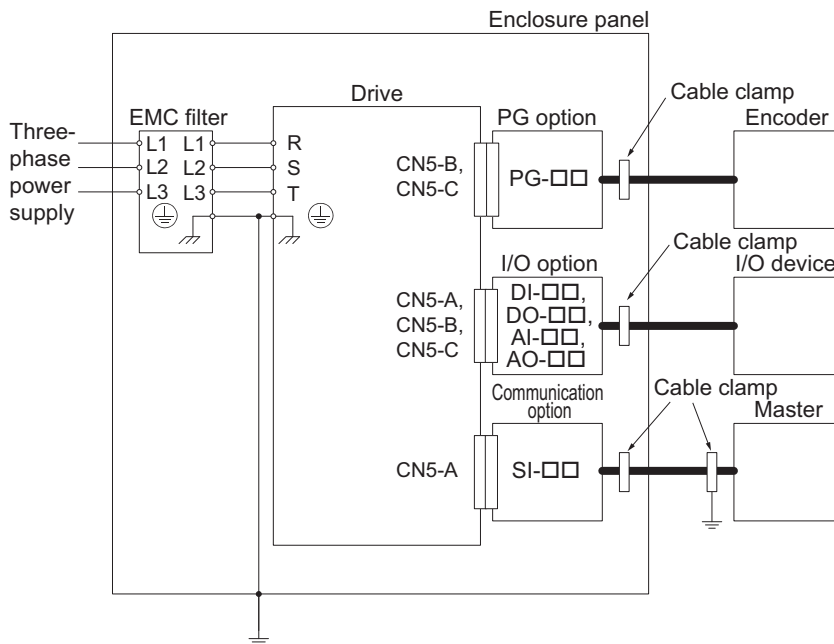

Figure 27 Option Installation (PG-□□, DI-□□, DO-□□, AI-□□, AO-□□, SI-□□)
2. Keep wiring as short as possible and ground the largest possible surface area of the shield to the metal panel according to Figure 27.